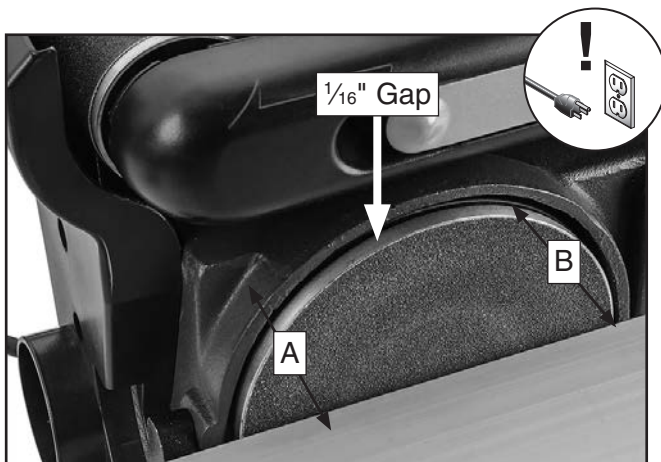

Figure 36. Work table alignment.
3. Check miter slot parallelism by measuring distance from each end of sanding disc to edge of miter slot (see **Figure 36**). Distance "A" should be equal to distance "B" with $\frac{1}{16}$ " gap between table and disc.
5. Adjust table so distance "A" equals distance "B" (**Figure 36**), with $\frac{1}{16}$ " gap between table and sanding disc.